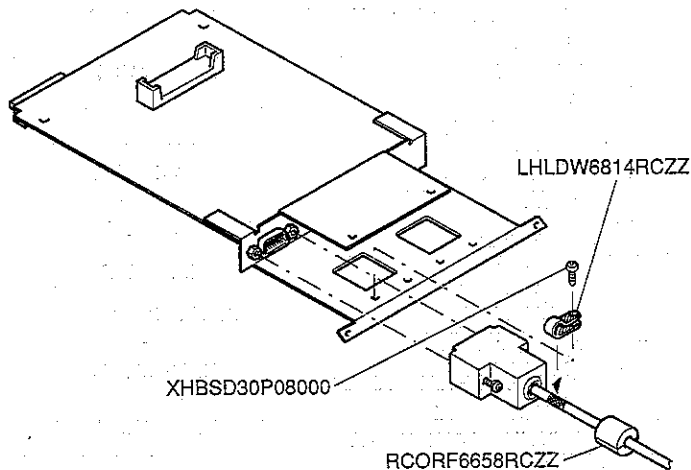

Fig. 2
- Strip the covering from RS-232C cable and install the frame ground clamp (LHLDW6814RCZZ). Then fasten it to the angle with the screw (XHBSD30P08000; Self tap screw). (Fig. 2)
- Be sure to install the core (RCORF6658RCZZ) on RS-232C cable. (Fig. 2)
- ① Insert two spacers (a) and connect the connectors of the interface PWB together (Fig.2).